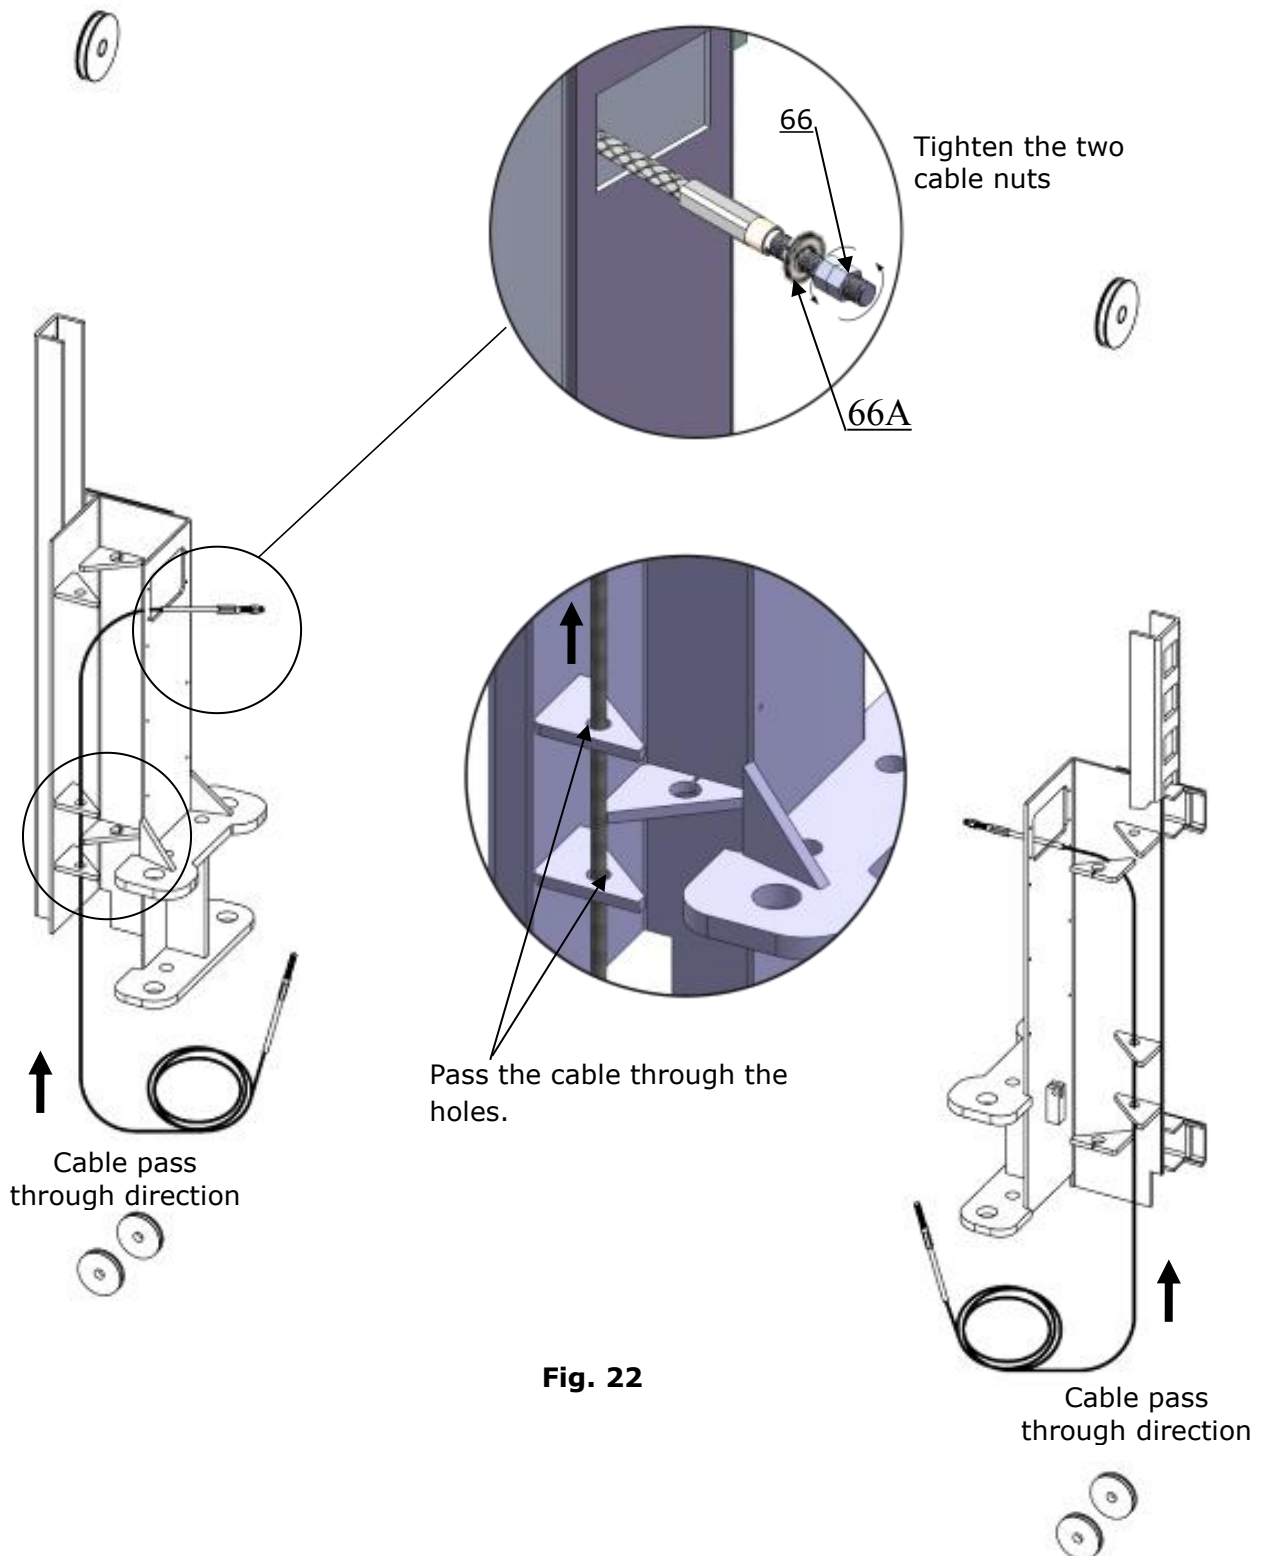

Fig. 22
1.1 Pass the cable from the bottom to the top of carriage, pull it out from the hole of carriage and then tighten the two cable nuts. See fig 22.